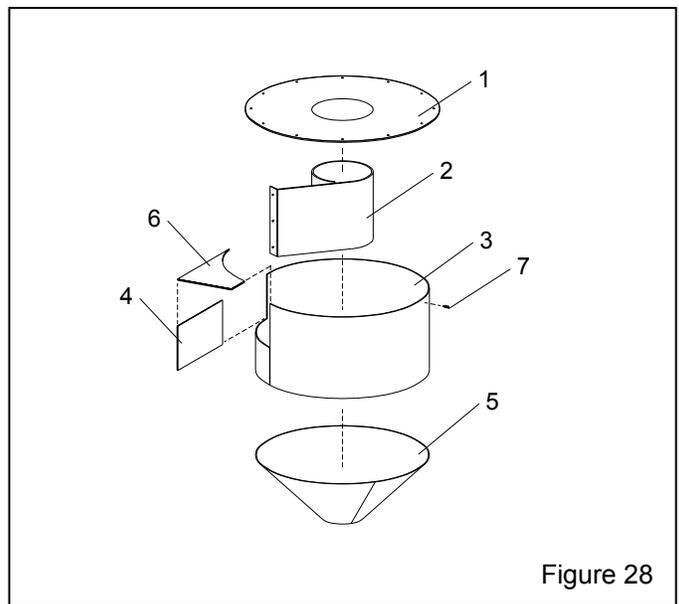

Figure 28
**9.9 Rubber Liners, Figure 28**